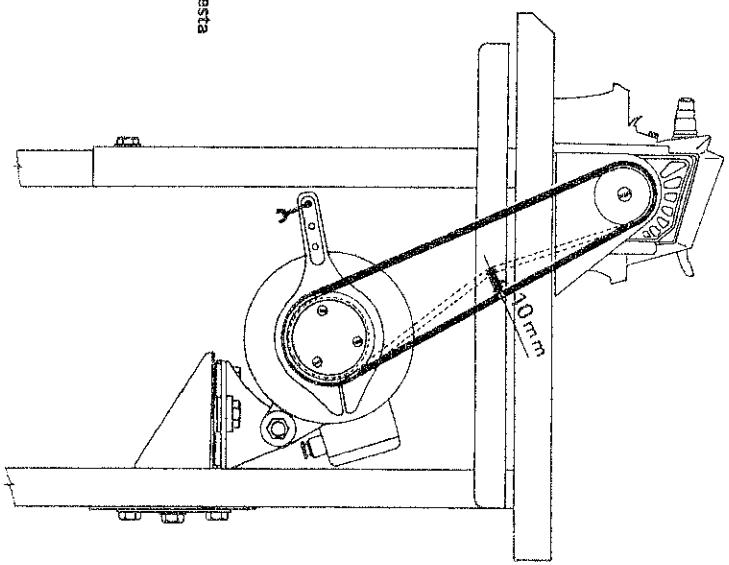

Fig. 2
1. Montare la cinghia di trasmissione come illustrato in fig. 2.
1. Fit the belt as illustrated in Figure 2.